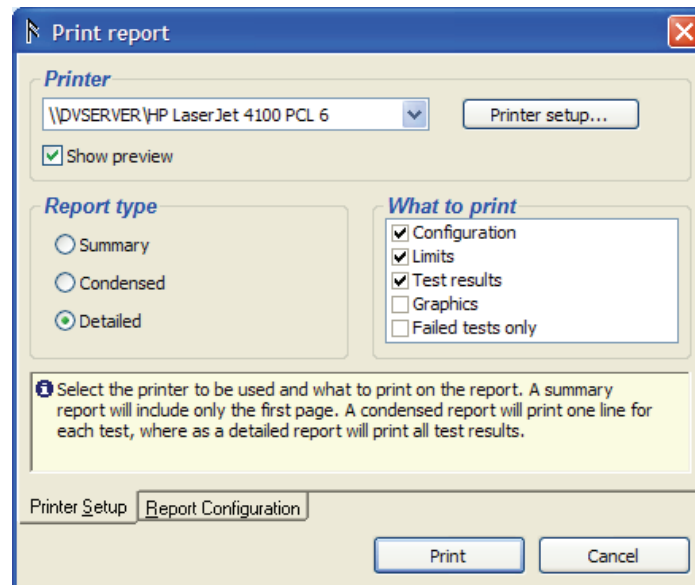

Figure 3-15. Print Report Window
1. With the Test Report open, click File Print or click the toolbar Print button to open the Print Report window shown in Figure 3-15.
To skip the preview before printing, uncheck the Show Preview checkbox in the print report window shown in Figure 3-15.